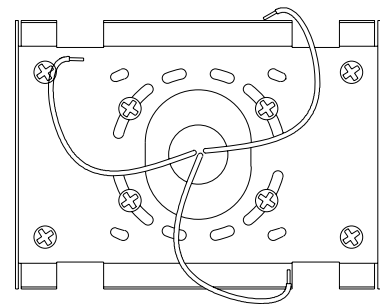

Figure 5
6. If junction box is recessed into wall (flush with wall surface), mark 4 large holes onto wall. Secure plate to wall with suitable fasteners and anchors. See Figure 5. Warning: Do not rely on junction box screws alone to secure mounting plate to wall! Proceed to Step 7.